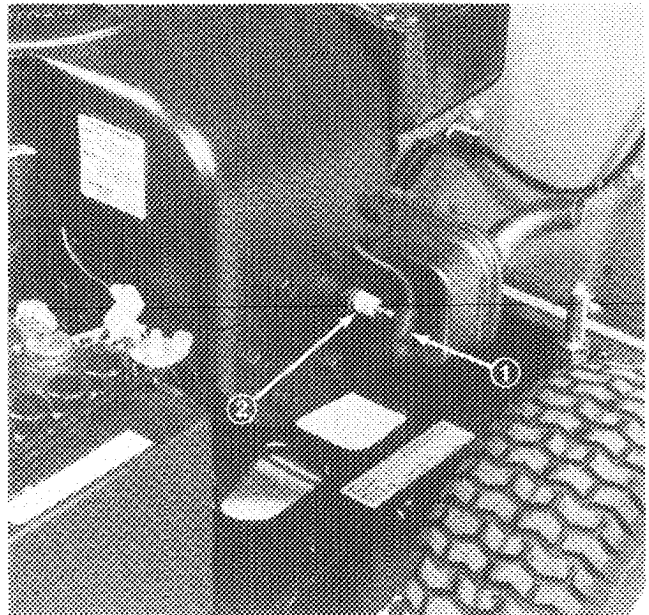

Figure 21
2. Pull high tension wire off spark plug and remove plug from cylinder head (Fig. 21).